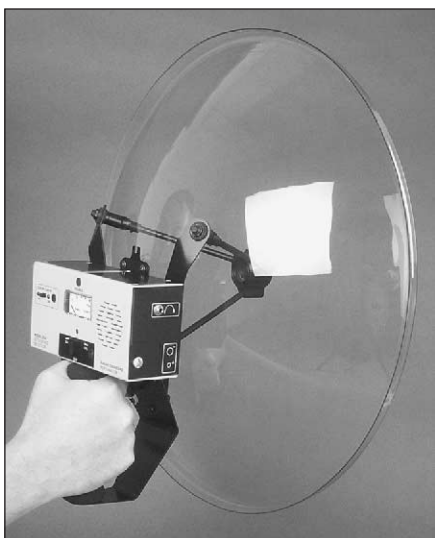

Fig 27.10 — The clear plastic parabolic dish is an “ear” connected to an ultrasonic detector that lets utility personnel listen for the sound of arcs.
- An ultrasonic dish or pinpointer. The RFI investigator, even if not a lineman, can pinpoint sources on the structure down to a component level from the ground using this instrument. See **Fig 27.10**.